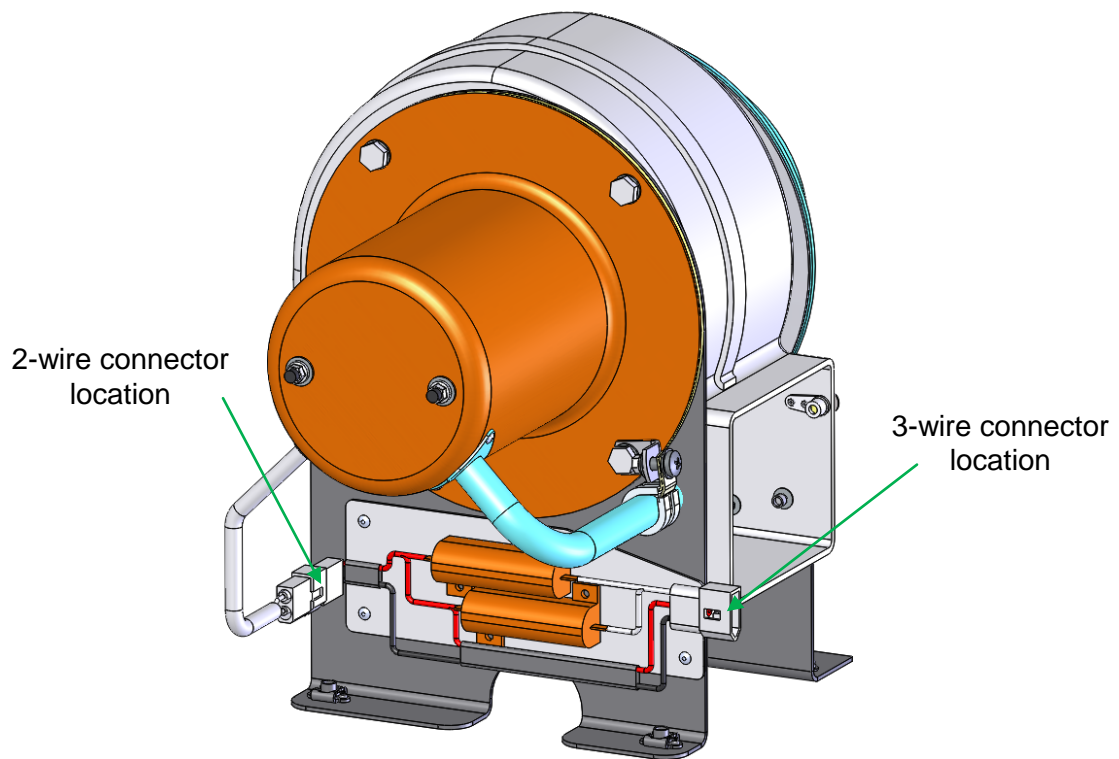
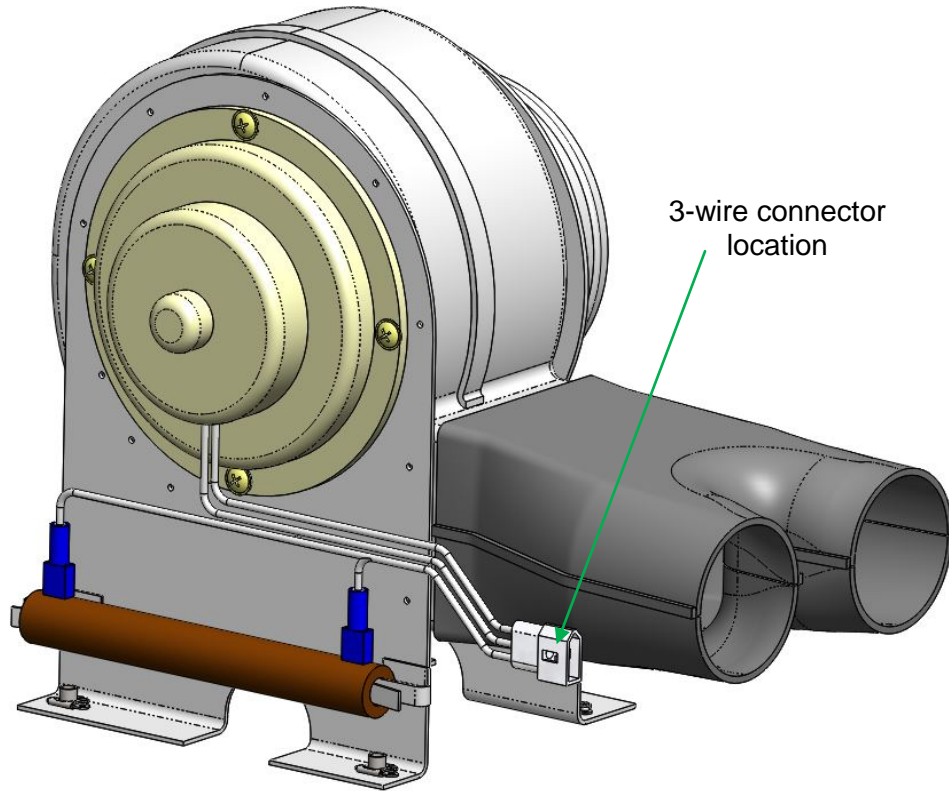

Figure 2: S-6102EC-2/-4 Aft Evaporator Blower
Figure 3: S-6078EC-10 Aft Evaporator Blower
Determine if the installed aft evaporator blower is a S-6102EC-2/-4 or a S-6078EC-10. Figure 2 and Figure 3 show the visual differences between the two types of aft evaporator blowers. Figure 2 depicts a S-6102EC-2/-4, while Figure 3 depicts a S-6078EC-10. The aft evaporator blowers may also be identified with a placard showing the part number.
Determine if the aft evaporator blower has a Molex or Deutsch Connector. Figure 2 and Figure 3 identify the location of the connector on the aft evaporator blower. Figure 4 shows the visual differences between the two types of connectors. The left connector (white) depicts a 3-pin Molex connector, while the right connector (green) depicts a 4-pin Deutsch connector.
2. Follow the instructions in Section D.4 for replacing the following connectors (refer to Figure 2 for connector locations, Table 1 for pin orientation, and the Instructions for Continued Airworthiness for applicable wiring diagram):
2. Follow the instructions in Section D.4 for replacing the following connectors (refer to Figure 3 for connector location, Table 2 for pin orientation, and the Instructions for Continued Airworthiness for applicable wiring diagram):